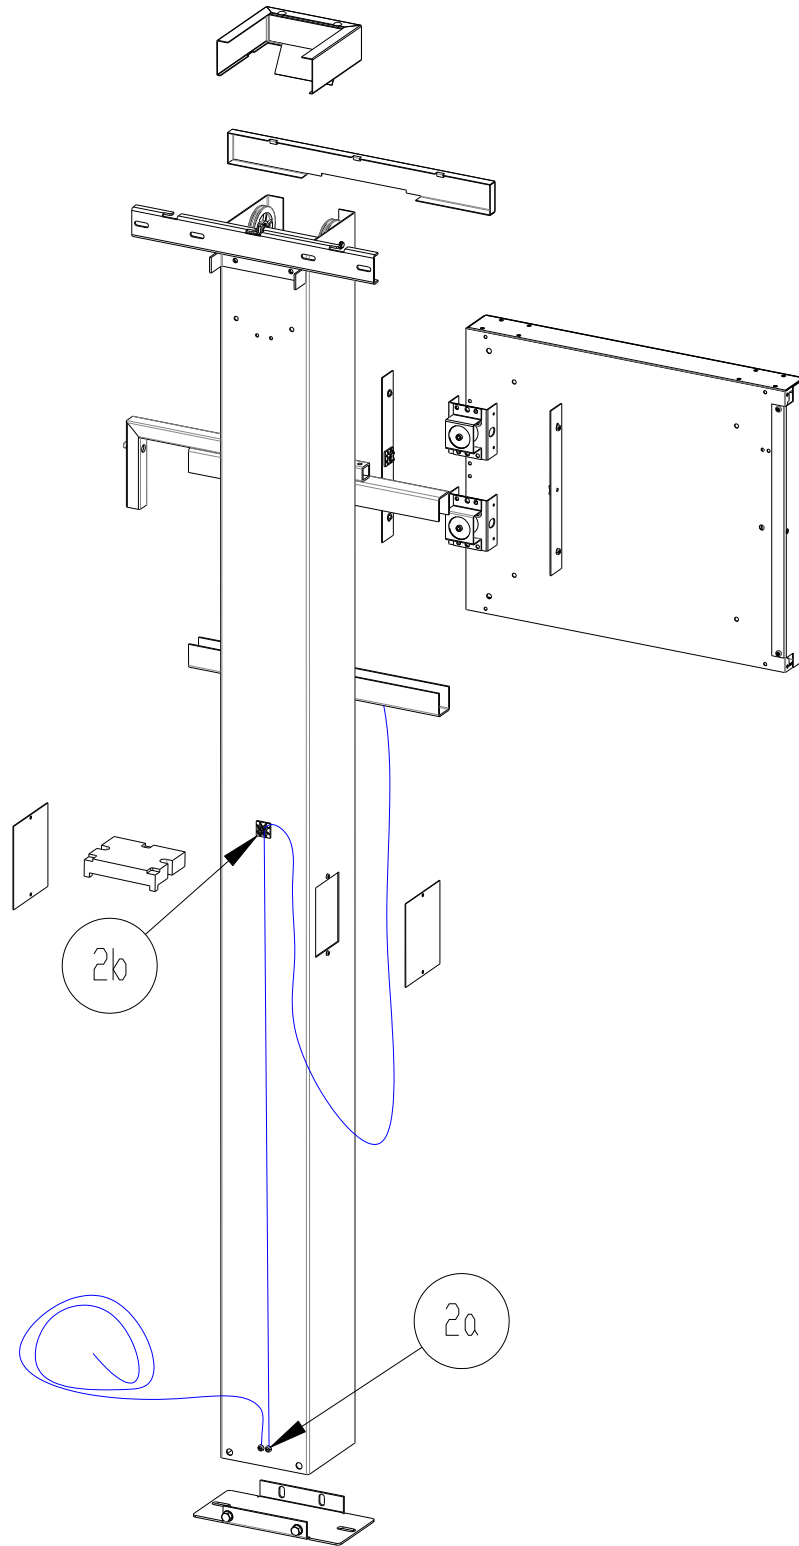

Figure 2
- Attach the ground cable (2) from the lower mounting channel (5a) (shipped factory-connected) to one of two tapped holes (figure 2: 2a) on the rear of column at the base. The other will be occupied by the incoming ground cable (factory-connected). Dress the channel cable straight up the column and secure with a zip tie to the plastic base (figure 2: 2b) provided on the back of the column approximately 3.5 ft up.